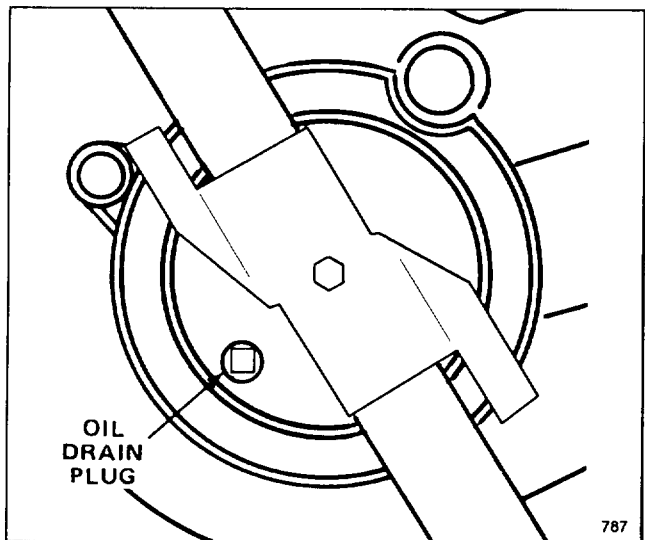

Figure 17
3. Tip mower on its right side. Remove drain plug from underside of mower using a 3/8" drive (Fig. 17). Place a drain pan under mower.